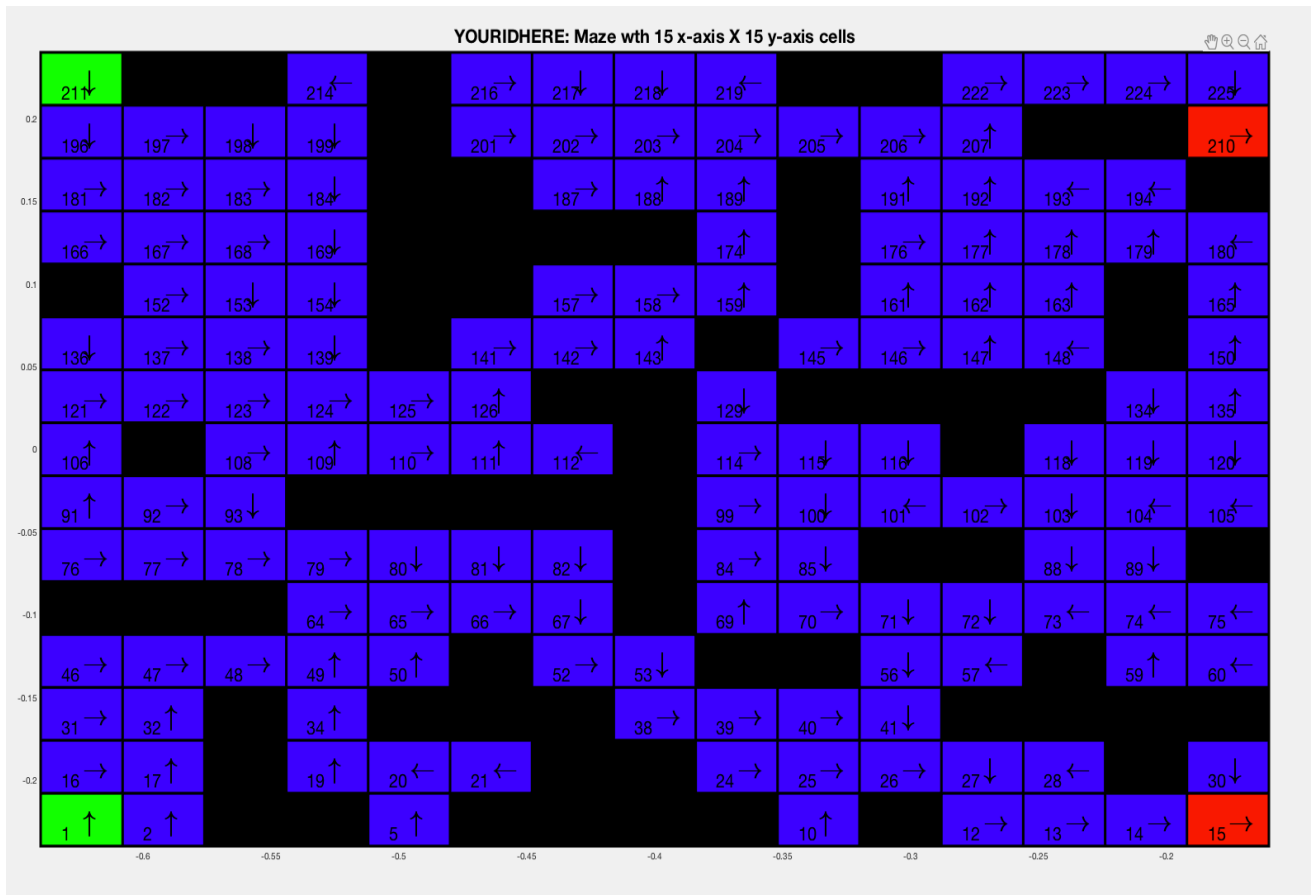

Figure 9. Greedy optimal action after Q-learning
- You should end up with a plot is like that shown in **Fig. 9**.